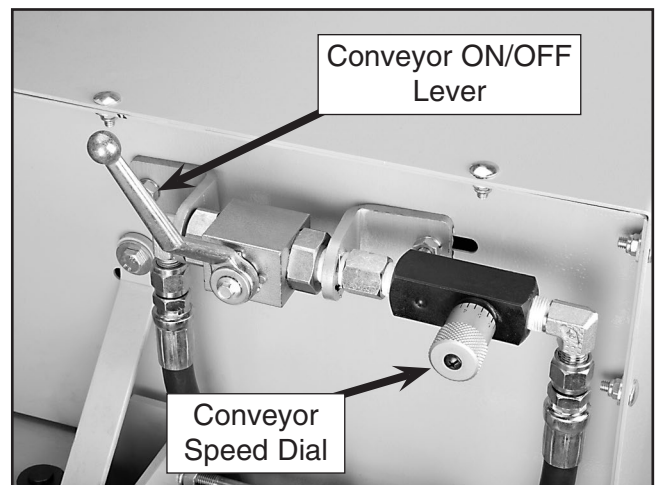

Figure 29. Conveyor controls.
2. Push the conveyor ON/OFF lever (**Figure 29**) forward (toward the conveyor belt) to start the conveyor.
3. Turn the conveyor speed dial (**Figure 29**) counter-clockwise to increase the speed or clockwise to decrease the speed.